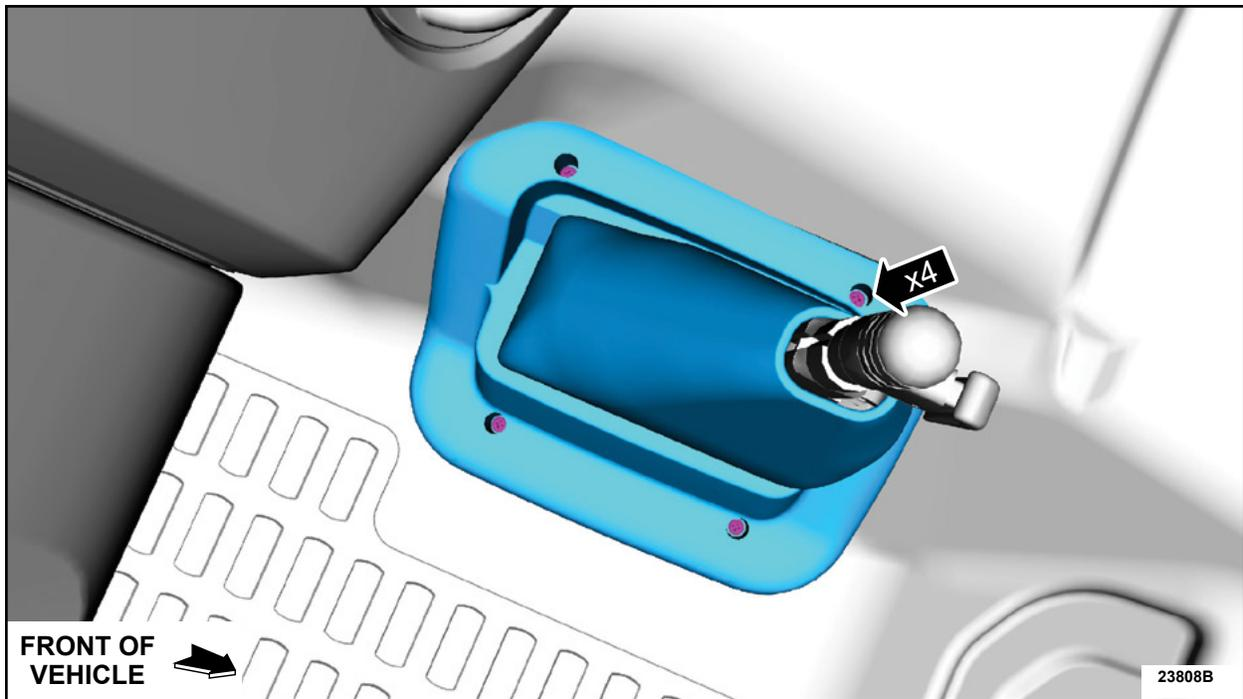

FIGURE 7
5. Install the manual parking brake lever boot and the screws. See Figure 7. This completes the FSA.